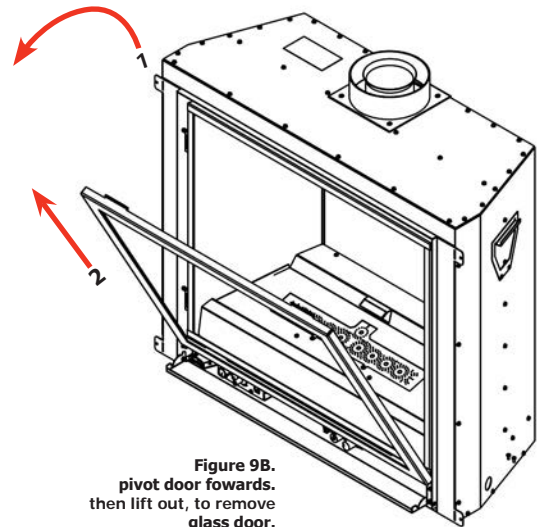

Figure 9B. pivot door forwards, then lift out, to remove glass door.
Step 3. Once released, pivot the door forward and pull it out of the bottom door retainers. The door must be angled in order for it to pull out. Fig.9B